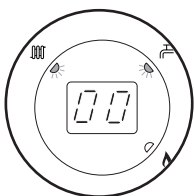

Fig. 108
7. The display will show '00', indicating maximum rate, then revert to 'P' alternating with the current boiler temperature (Figs 108, 109 & 110).